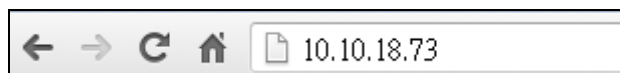

Figure 4-23: IEI iMAN Web Address
- Step 2:** On the remote management console, open a web browser. Enter the managed system IP address in the web browser (**Figure 4-23**).